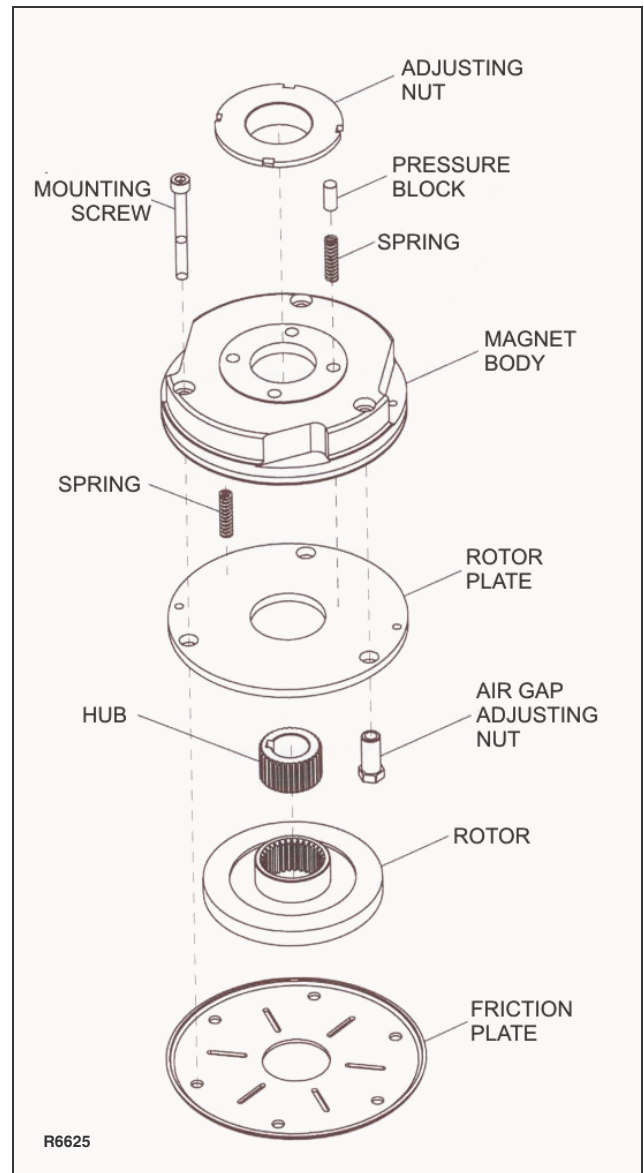

Figure 6-1 Brake Assembly
The brake system consists of a drive motor mounted brake. This brake is spring applied and electrically released. Should it become necessary to move a dead truck, the brake is equipped with an adjusting nut (Figure 6-1) that may be manually loosened to release the brake.
5. If necessary, refer to Figure 6-1 and adjust the gap as follows:
3. Rotate the adjusting nut (Figure 6-1) clockwise to SHORTEN the stopping distance or counterclockwise to LENGTHEN the stopping distance.
4. Remove the three mounting screws (Figure 6-1) and the brake.